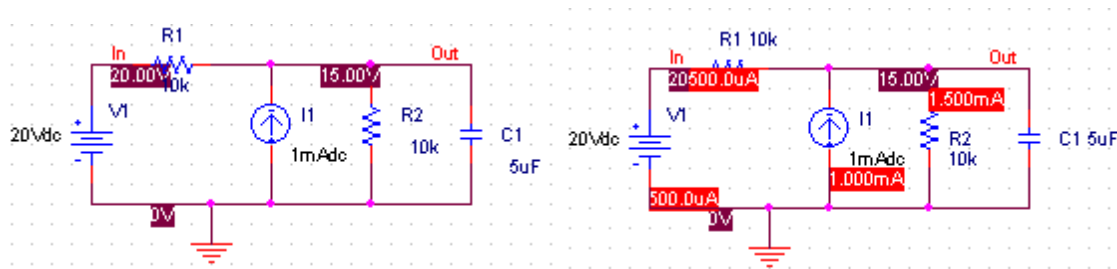

Figure 6. Results of the Bias simulation displayed on the schematic.
7. To see the result of the DC bias point simulation, you can open the Simulation Output file or go back to the schematic and click on the V icon (Enable Bias Voltage Display) and I icon (current display) to show the voltage and currents (see Figure 6).